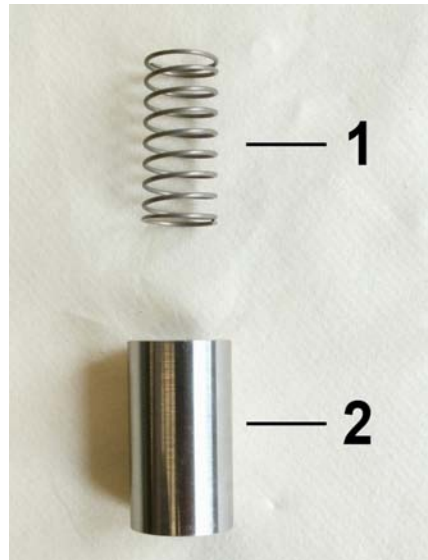

Fig. 37: Spring and float
5. The inner parts of the flow monitor consist of the spring (Fig. 37/1) and float (Fig. 37/2).